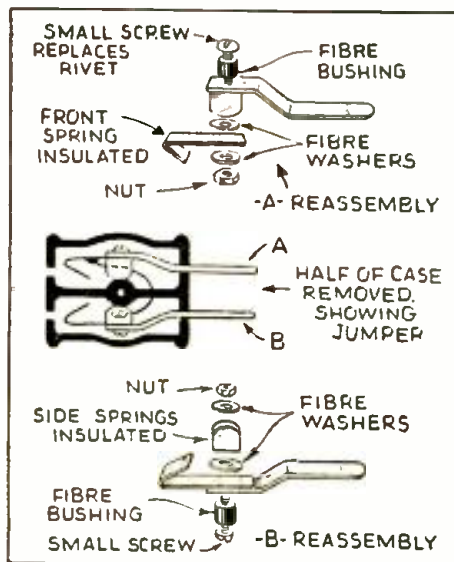

Fig. 7. Convenient test-lamp unit.
**COMPACT TEST ADAPTER.** This little unit is made, as Fig. 7 shows, by reassembling a standard cube-tap. In drilling out the rivets holding the receptacle springs to the plug prongs, the hole is made large enough to admit a fibre bushing around the small screw used to reassemble the parts as shown in the self-ex-